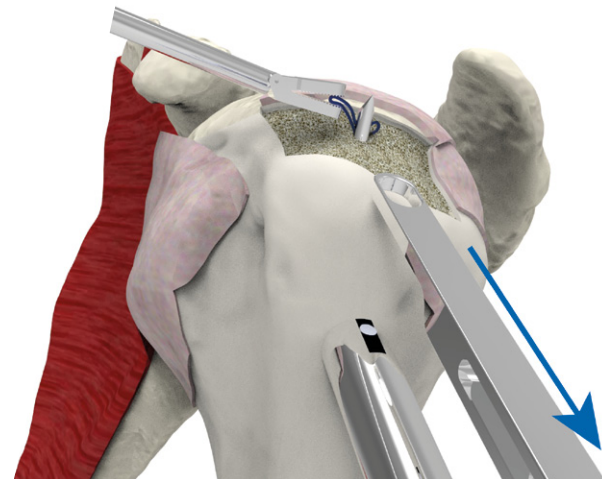

Figure 9
(This will permit the shuttle to fold and allow for an easier grasping, as shown in fig. 9).
- ▶ USE A GRASPER TO GRAB THE SHUTTLE OR THE SUTURES (FIG. 9).